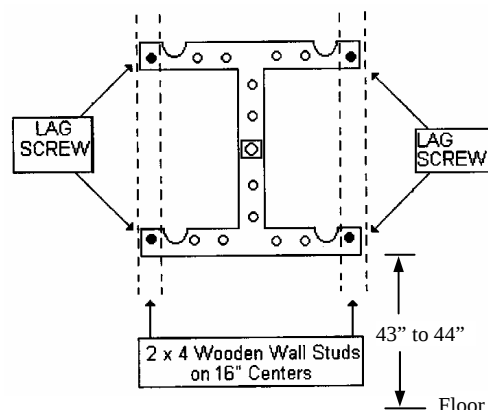

Figure 4-B – Mounting Bracket on Wall
2. Mount the bracket to the wall with the lower edge 43" to 44" up from the floor using 1/4" x 1-1/2" lag screws that attach to wooden wall studs as shown in *Figure 4-B*. Be sure the bracket is level.